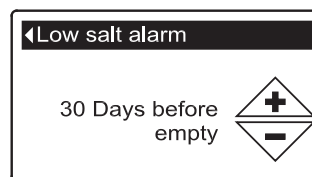

FIG. 31
5. Press the SELECT (O) button to display the Low salt alarm screen (See Figure 31).